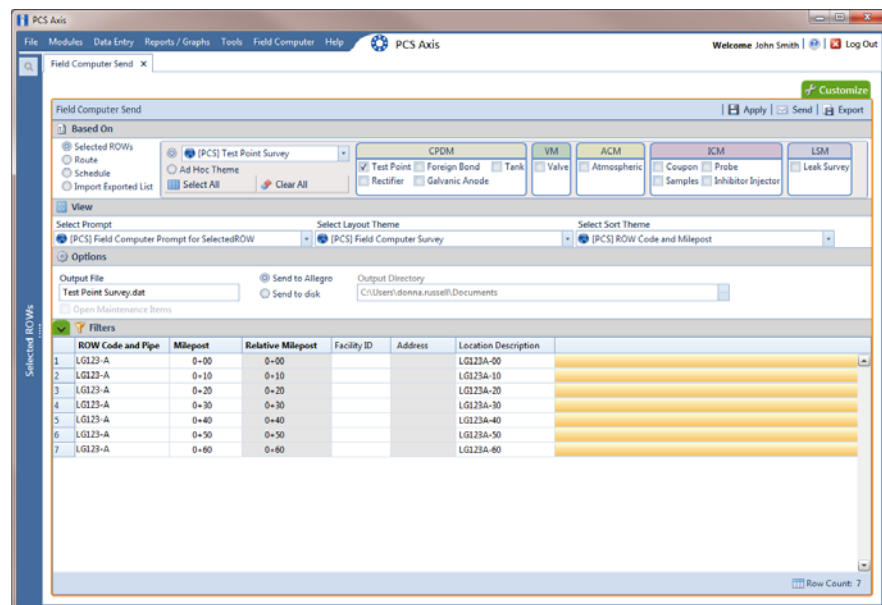

Figure 13-24. Field Computer Send Based on Selected ROWs
- b Choose one or more facility types using one of the following options (Figure 13-24):